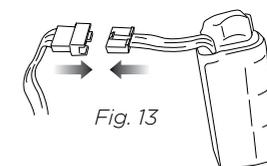

Fig. 13
- 6 Connect the wire terminal from the unit to the wire terminal connector of the new Shark® battery pack (XBAT300C) and replace the battery pack into the unit. **(Fig. 13)**